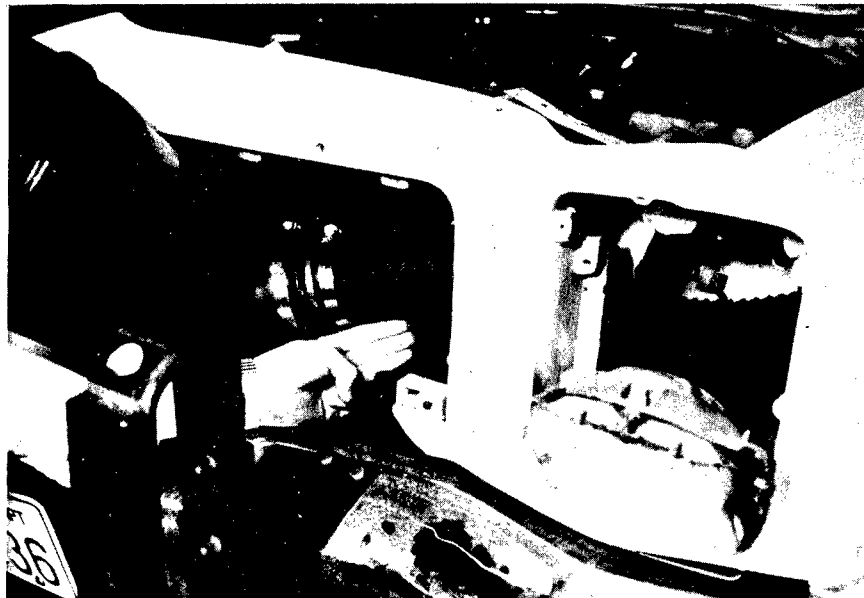

Figure 12
- (1) Over the radiator core support. This will require local flattening of the duct at the core support.
- (2) Through the radiator core support. Note: Protect duct from the sharp edge of the hole.
- (3) Through the fender cavity, Fig 12. Some body members may have to be bent to accommodate the duct, Fig 13. Care must be taken in routing of the induction air duct to avoid sharp objects which can cut or wear through or puncture the thin duct wall. Where such hazards cannot be voided, additional protection must be provided. A safe policy is to cover the duct with a section of heavy wall hose, or an old tire inner tube, wherever the duct touches anything. This is especially recommended when using the fender cavity route.